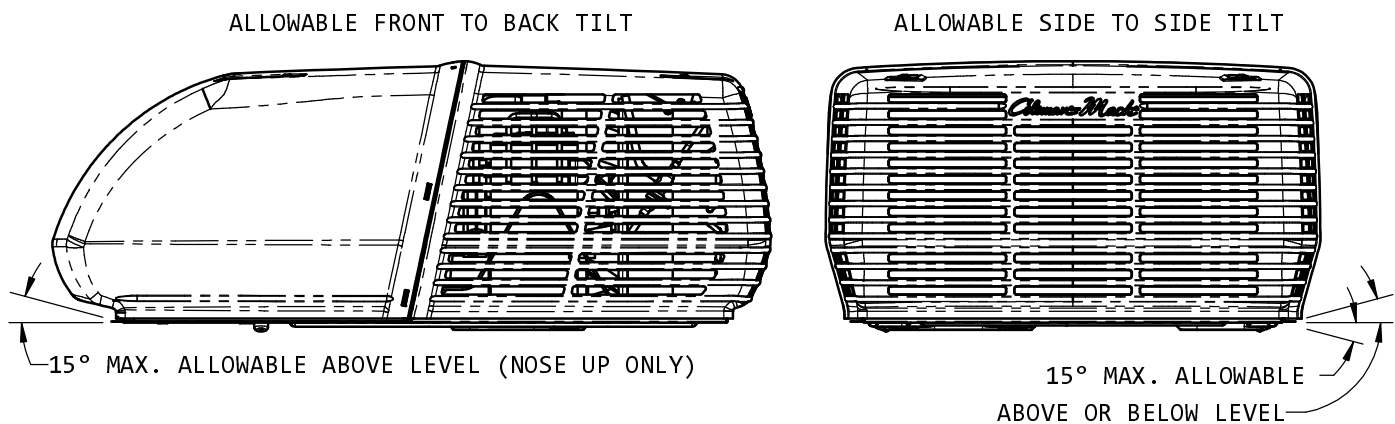

FIGURE 2
- D. The roof top air conditioner must be mounted as near level from front to rear and side to side as is possible when the vehicle is parked on a level plane. Figure 2 shows maximum allowable degree deviations (mounting degrees from total surface flat plane).